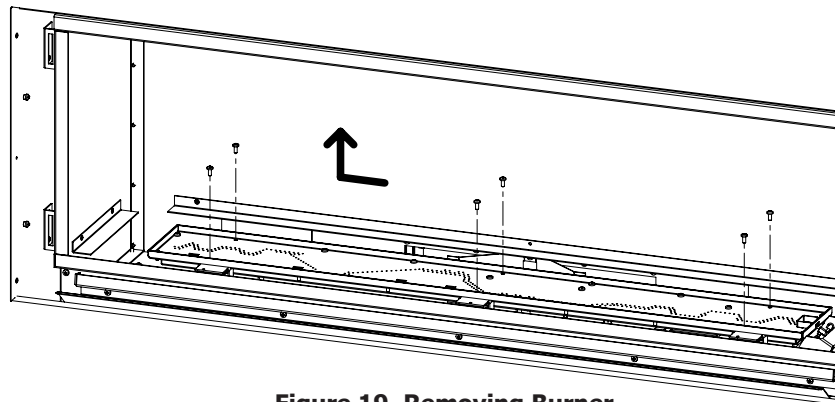

Figure 19. Removing Burner
6. Remove the six T-20 screws securing the burner pan as shown in Figure 19; do NOT remove the other T-20 screws. Once the specified screws are removed slide burner to the left and lift out to remove.